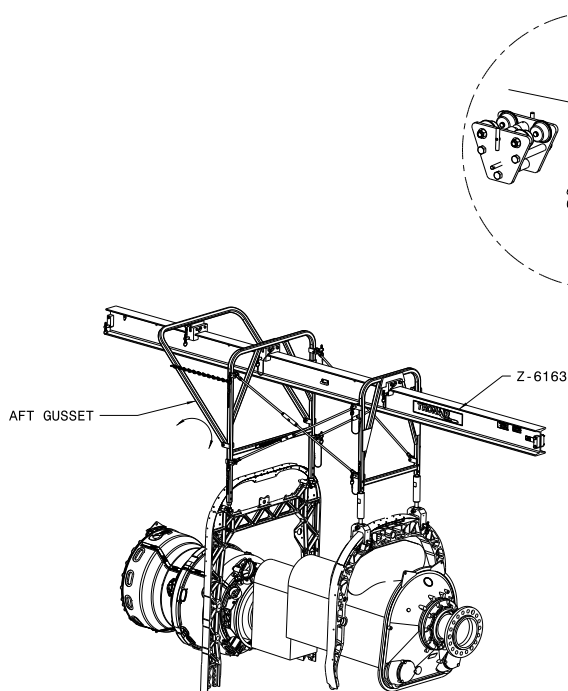

**FIGURE 2**
- Install the tie rods (Z-6176 & Z-6162) to the forward and aft supports as shown in **Figure 2**. The tie rods assemblies are used to stabilize the forward and aft supports into a vertical position to allow for beam assembly.